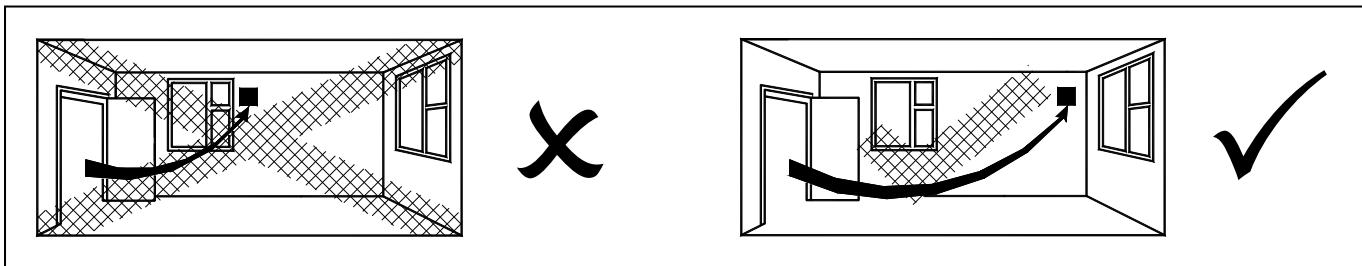

Fig. 1.
2. Removing the grille. Firstly remove the front cover by carefully pulling each corner of the front panel until it is free to be removed from the inner grille (Fig 1). Unscrew the two screws at the bottom of the inner grille. The screws will remain in the inner grille but will be loose when the grille is ready to be removed (Fig 1). Lift the inner grille from the bottom edge ensuring not to damage the sensor cable (TM model only) attached to the front assembly and Base Housing (Fig 6).
5. Removing the grille. Firstly remove the front cover by carefully pulling each corner of the front panel until it is free to be removed from the inner grille (Fig 1). Unscrew the two screws at the bottom of the inner grille. The screws will remain in the inner grille but will be loose when the grille is ready to be removed (Fig1). Lift the inner grille from the bottom edge ensuring not to damage the sensor cable (TM model only) attached to the front assembly and Base Housing (Fig 6).